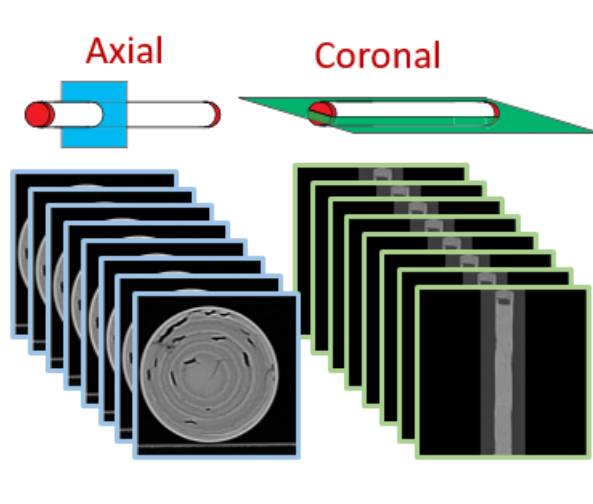

Figure 1. Examples of Axial and Coronal CT slices.
- CT data in DICOM format (Axial, coronal, or sagittal plane slices; see Figure 1)
- 3) Select the plane your DICOM files are processed in by clicking the **Sagittal/Coronal** (default) or **Axial** round radio button (see Figure 1).